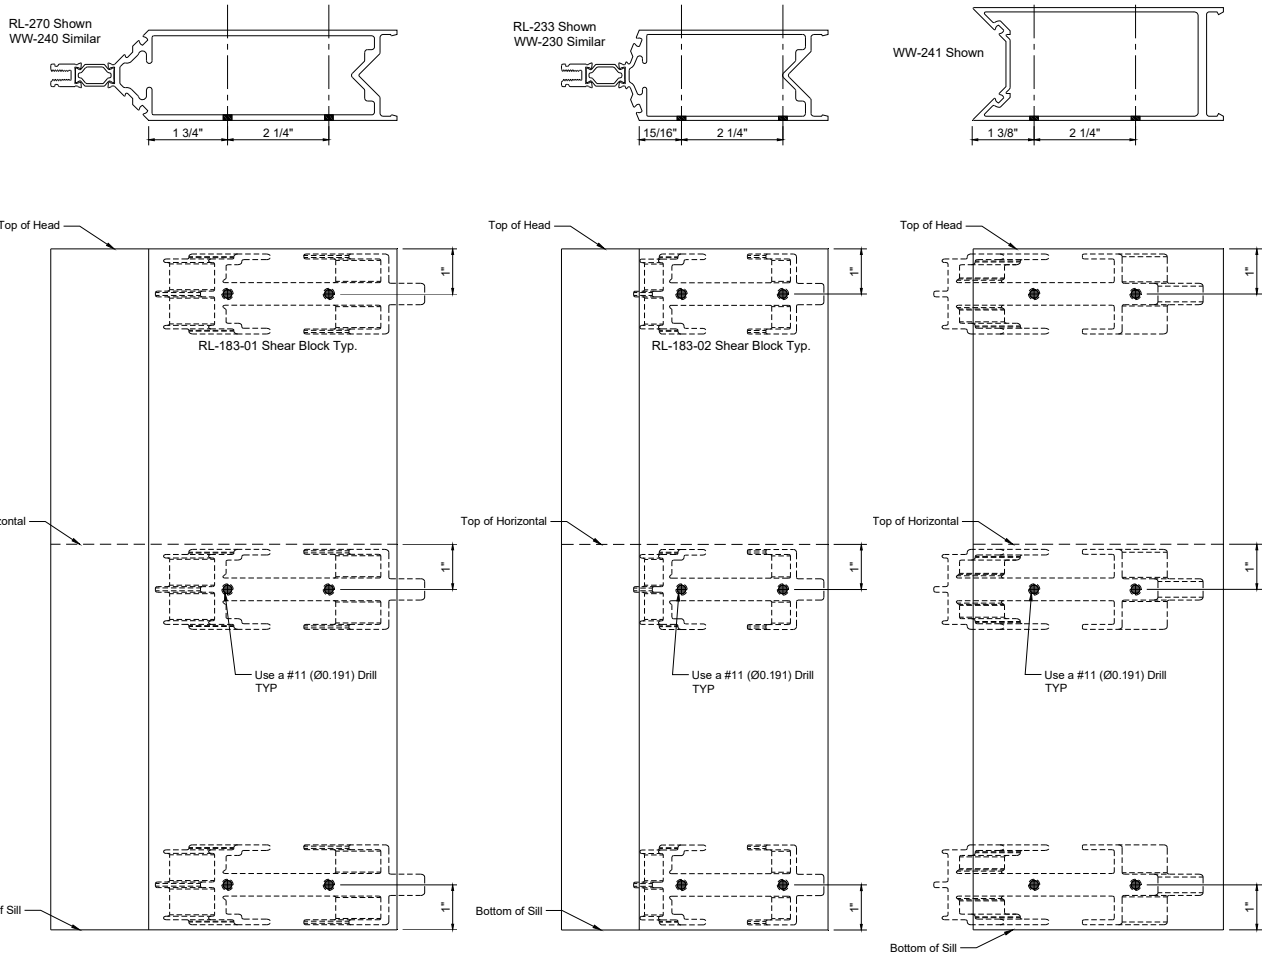

Figure 7: Corner Mullion Fabrication
- 5.2 Fabricate corner mullions for horizontal members as shown in *Figure 7*.